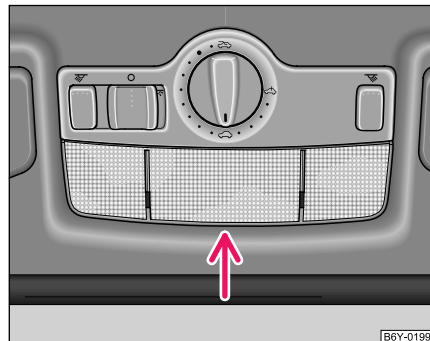

Fig. 162 Remove interior light
- Pull the diffusion disk (see arrow) downwards from the housing ⇒ fig. 162. ►